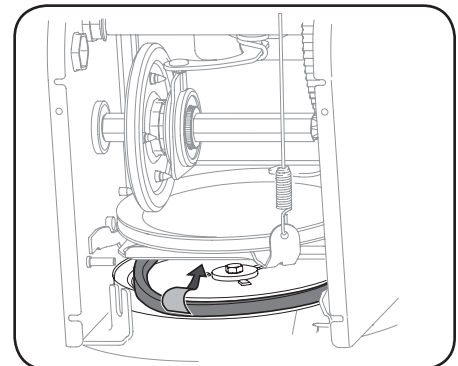

Figure 4-18
8. Remove belt from around auger pulley, and slip it between support bracket and auger pulley. See Figure 4-18.